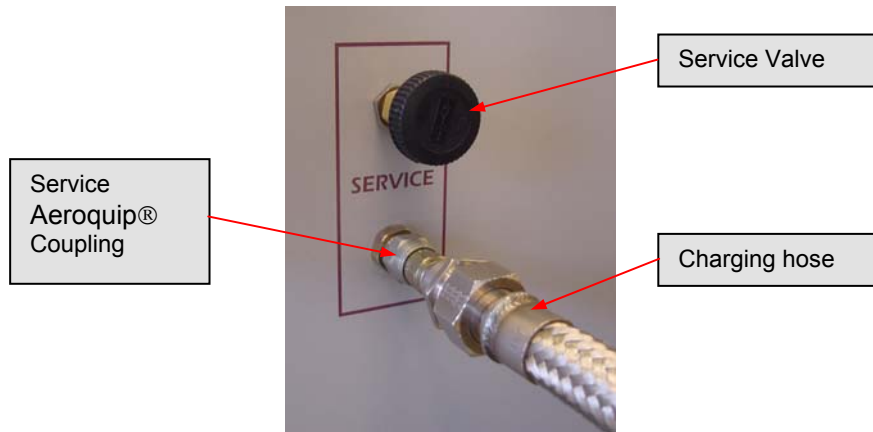

Figure 15: Service Valve and Access Port
- 1) Make sure the service valve is closed. See Figure 15.